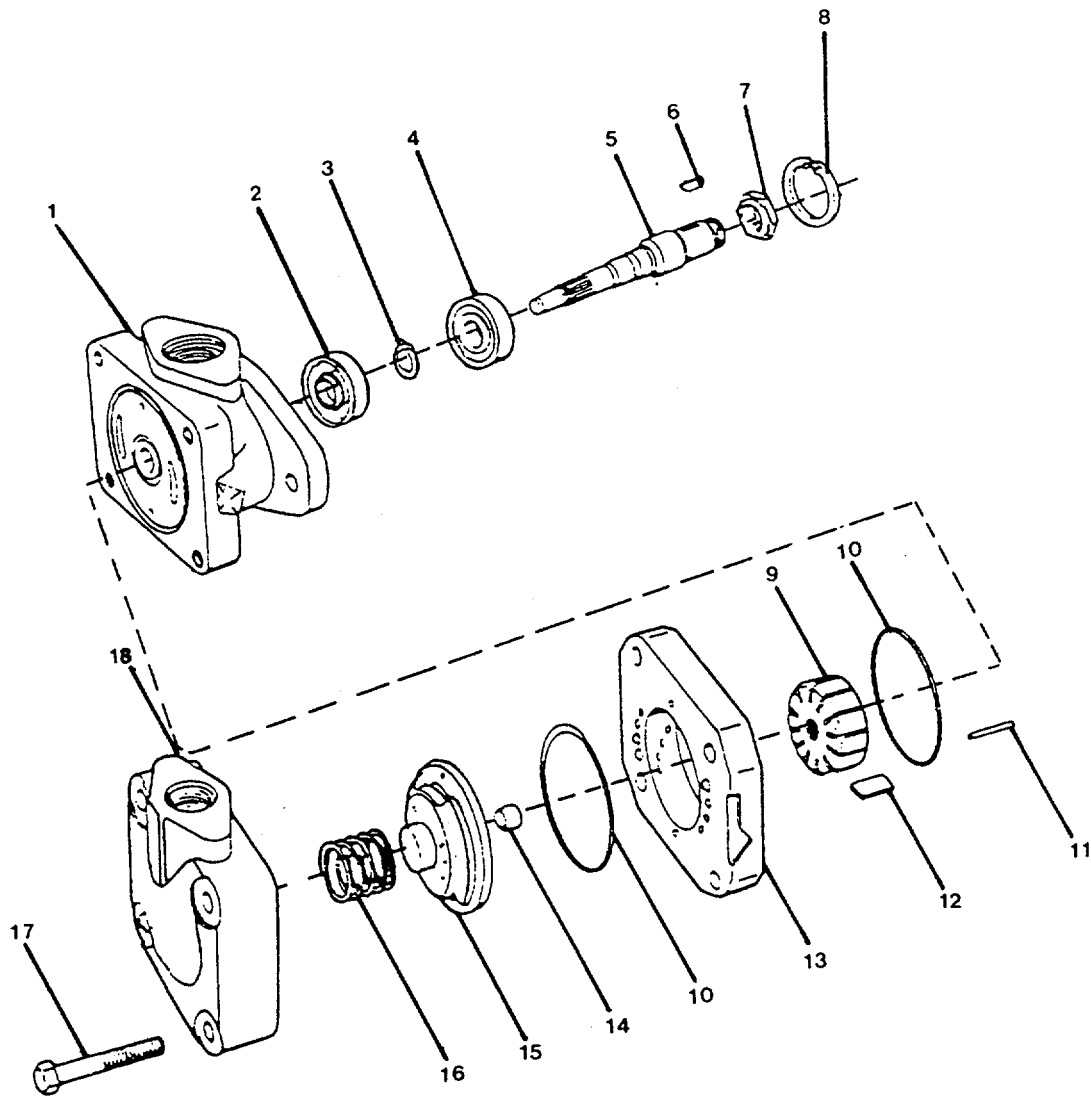

FIGURE 3-3. Hydraulic Pump Assembly.
**3-11. Repair Hydraulic Pump. (FIGURE 3-3)**